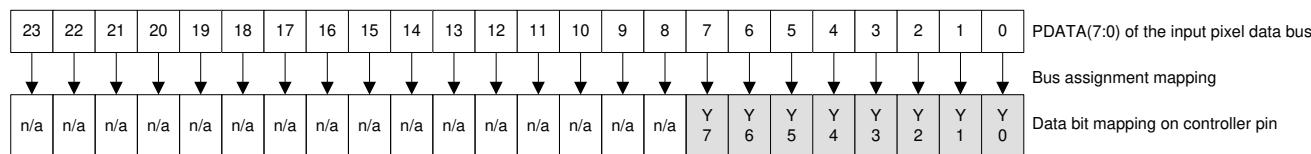

Figure 6-9. BT.656 Interface Mode Bit Mapping
- (1) Calculate clock jitter (in ns) using this formula: Jitter = $[1 / f_{\text{clock}} - 5.76 \text{ ns}]$. Clock jitter must maintain setup and hold times. BT.656 data bits must be mapped to the DLPC34xx PDATA bus as shown in Figure 6-9 shows BT.656 bus mode YCbCr 4:2:2 source PDATA (23:0) mapping.
- (2) The BT.656 interface accepts 8-bits per color, 4:2:2 YCbCr data encoded per the industry standard through PDATA(7:0) on the active edge of PCLK. See Figure 6-9.